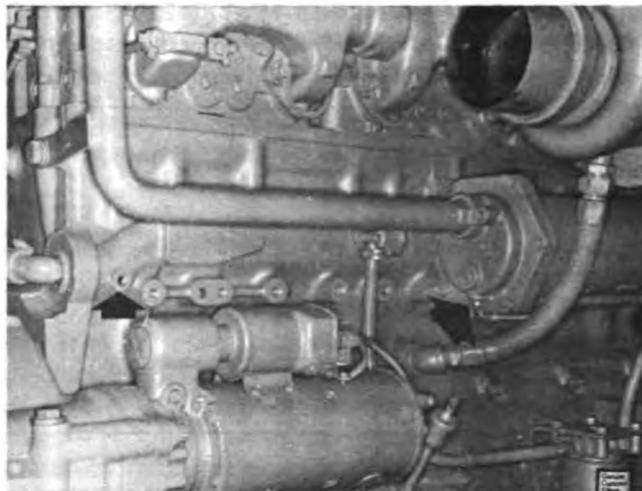
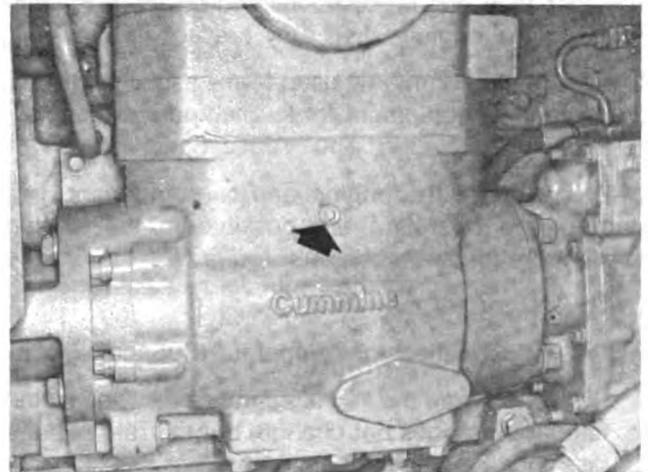

Fig. 1-13, (OM1010L). Cooling system drain points—NT-855 C.I.D. Engine
Fig. 1-20, (K21904). Two cylinder air compressor coolant drain
2. Drain the cylinder block and heads on all engines by opening the petcocks and removing the drain plugs as shown in Figs. 1-13 to 1-19. If an air compressor (Fig. 1-20), heat exchanger or other "water cooled" accessory is used, open the petcock and drain. Failure to properly drain the engine and accessories may cause serious damage during freezing weather.